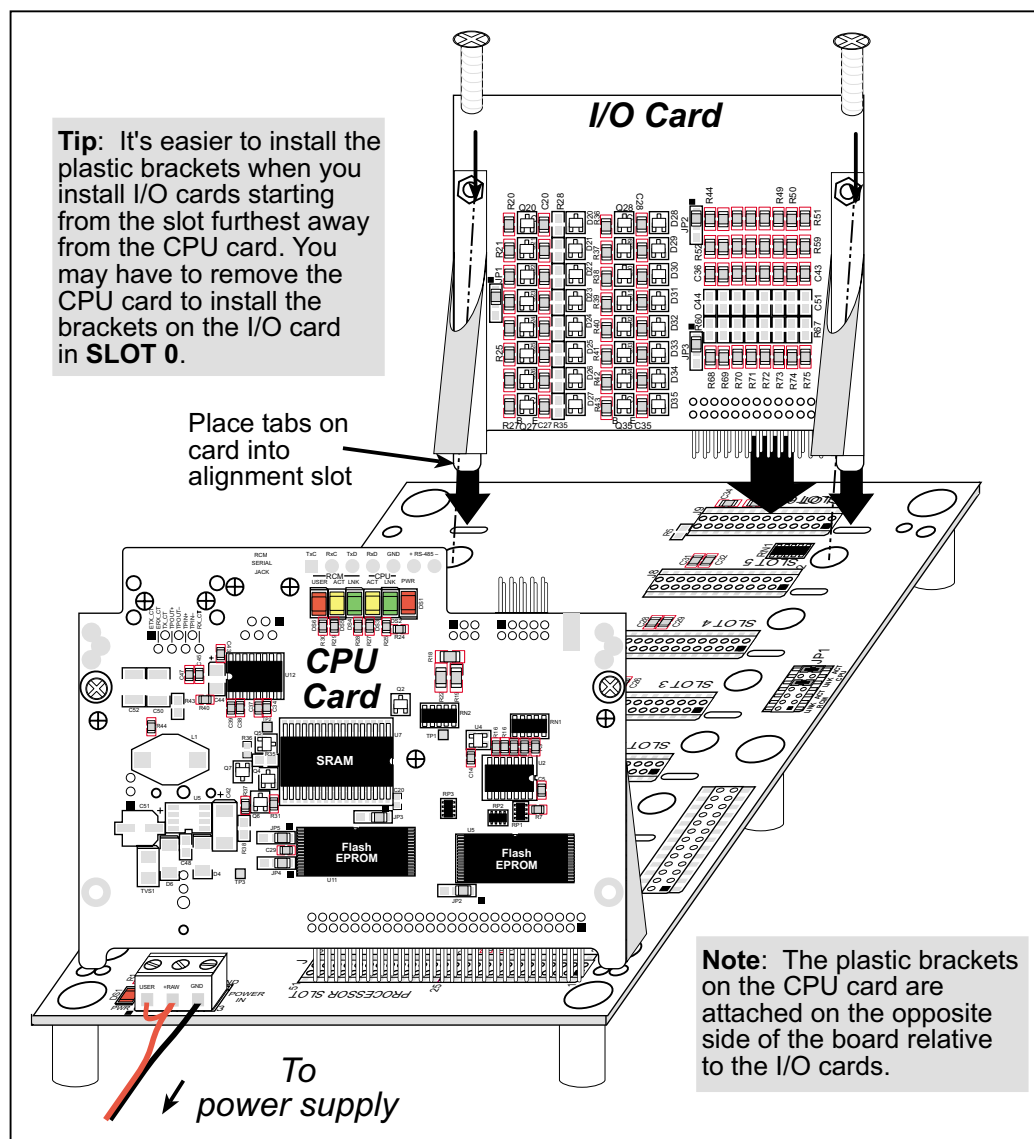

Figure 5. Installing I/O Cards on the Backplane
1. Orient the backplane with the CPU card already installed and facing towards you as shown in Figure 5.
2. Position the new I/O card above the backplane over any unused slot position (**SLOT 0** to **SLOT 6**) as shown in Figure 5. Note the slot number and the type of I/O card since Dynamic C addresses the I/O cards by slot number.
3. Carefully insert the I/O card header into the slot on the backplane and line up the tabs on the I/O cards with the slots on the backplane as shown in Figure 5.